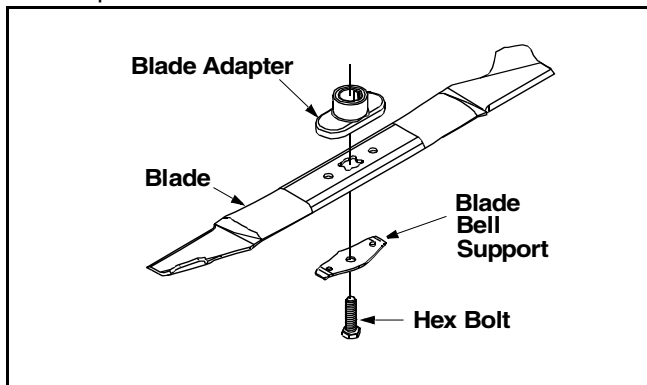

Figure 14
- Remove the bolt and blade support or bell washer which hold the blade and adapter to the engine crankshaft. See Figure 14. Remove the blade and adapter from the crankshaft.
- Install the blade adapter on the crankshaft with the “star” away from the engine. Refer to Figure 14. Place the blade with the side marked bottom (or with part number) facing away from the adapter.